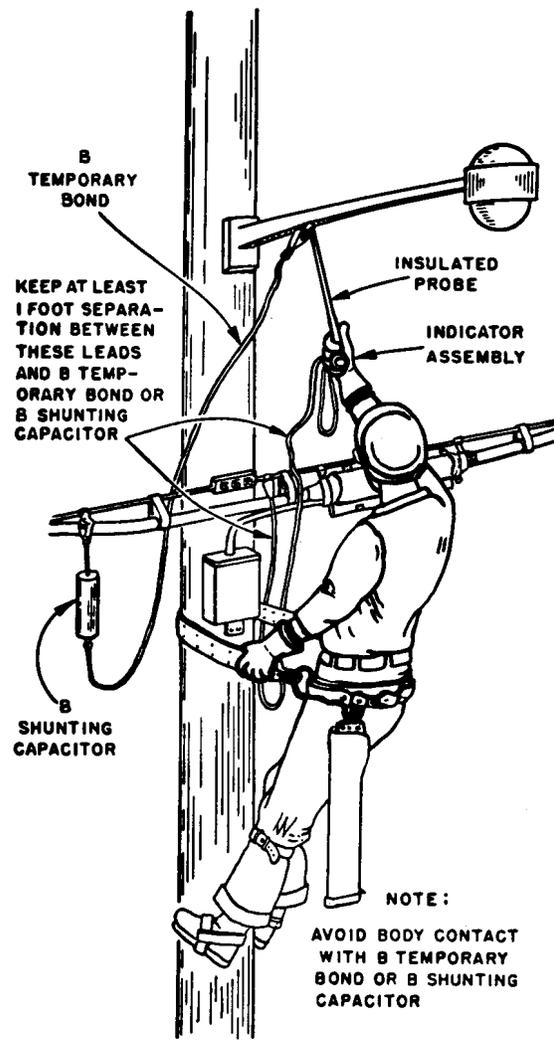

Fig. 12—Use of B-Shunting Capacitor
8.02 Use of B-Shunting Capacitor—If a foreign voltage is detected when performing the test described in 8.01, make a second test wearing insulating gloves with the aid of a B-Shunting Capacitor as follows (Fig. 12):